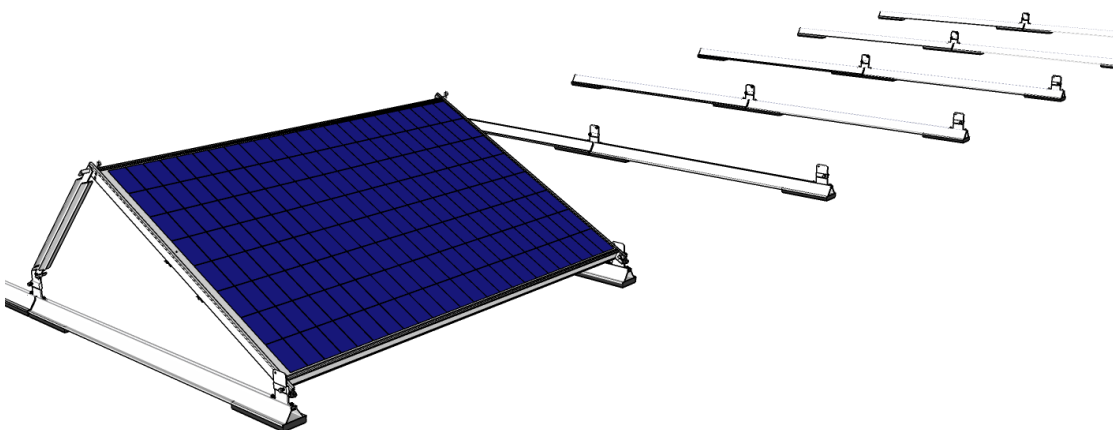

Figure 15A
Step 12: Add more Rails, Modules, and Reflectors – Figures 15A-15D
Add more two-rail columns (see Steps 3-6, above) to the east or west of the wavelet already constructed to complete the first row of the array section; see Figure 15A. **Be sure to keep the second row of fins closely aligned along the East-West direction.**